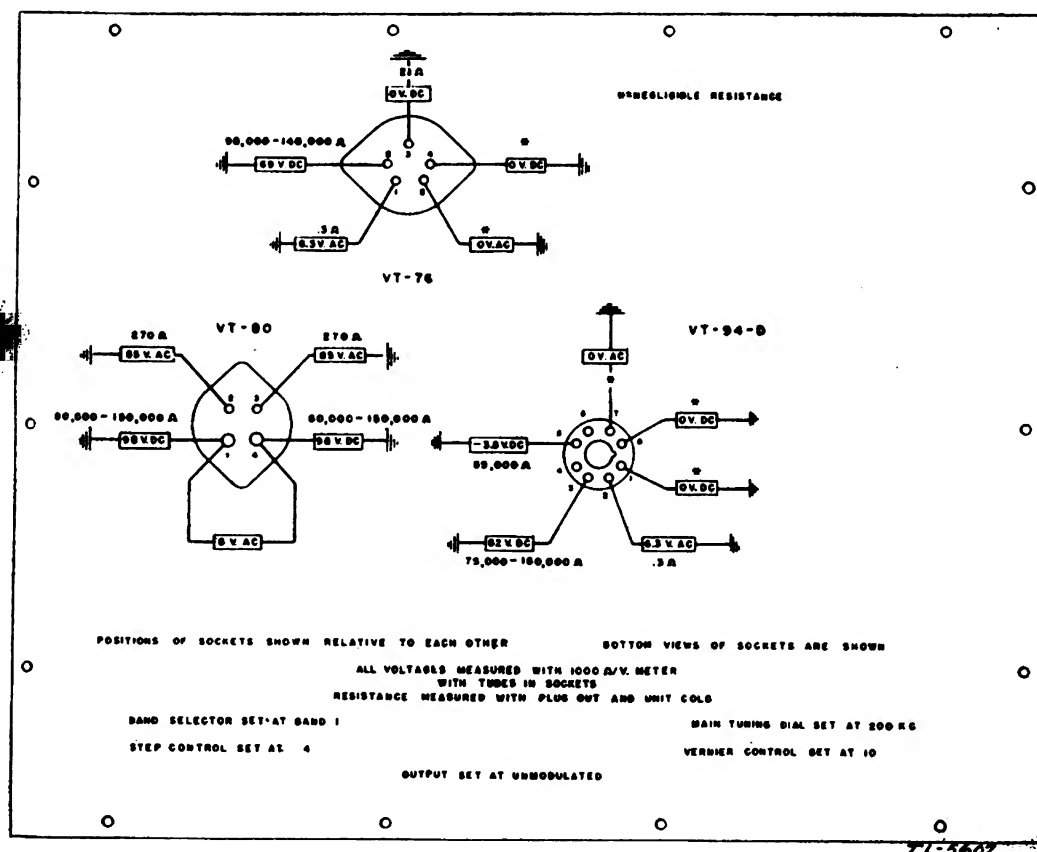

FIGURE 7.—Resistance and voltage measurements from tube sockets to chassis.
17. Voltage and resistance readings.—See figure 7.